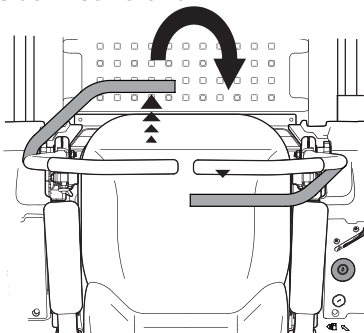

Figure 31
2. To turn clockwise, move the left control lever forward while simultaneously moving the right control lever rearward. See Figure 31.